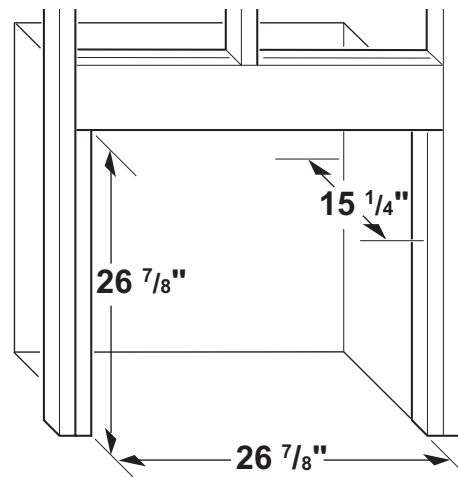
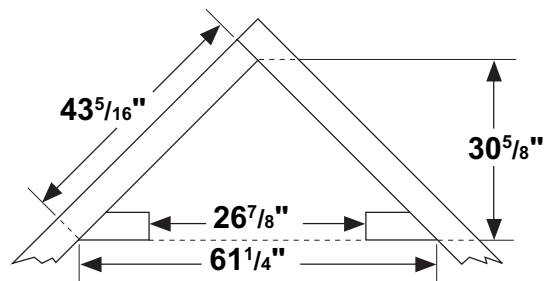

Figure 7 - Rough Opening for Installing in Wall
Figure 8 - Rough Opening for Installing in Corner
⚠ WARNING: Maintain the minimum clearances shown in Figure 7. If you can, provide greater clearances from floor, ceiling and joining wall.
1. Frame in rough opening. Use dimensions shown in Figure 7, for the rough opening. If installing in a corner, use dimensions shown in Figure 8, for the rough opening. The height is 26 7/8" which is the same as the wall opening above.